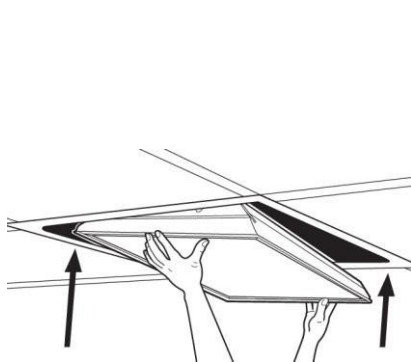

FIG. 9: CEILING INSTALLATION
- Place the fixture in the appropriate T-Grid ceiling structure. See Figure 9.